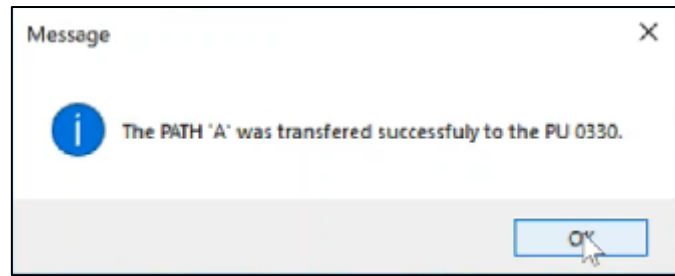

Fig. 247 - Message of successful exportation
6. The exportation is complete (Fig. 247).